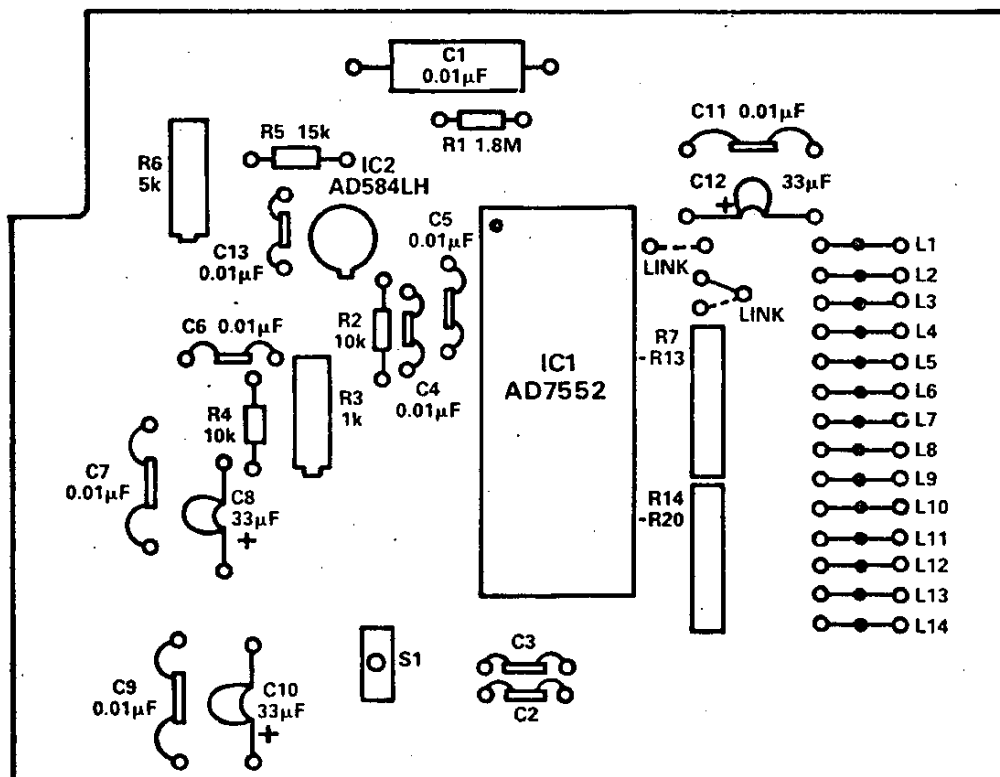
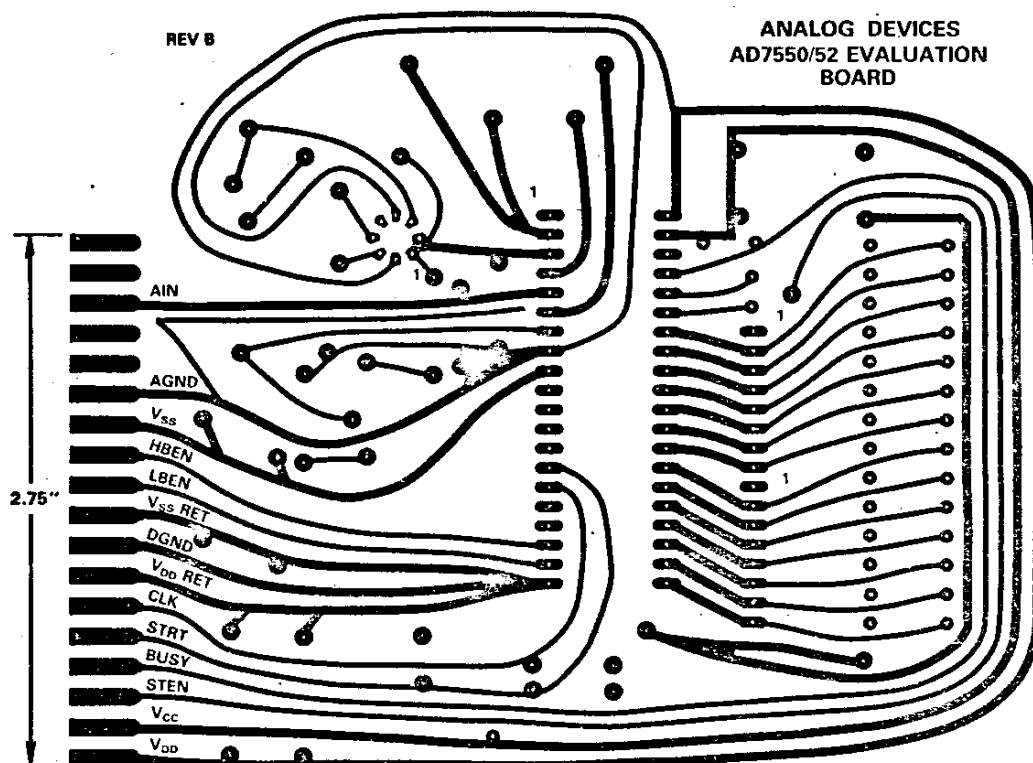

Figure 7. Component Overlay for Figure 8a
Figure 8a. Component Side
9. A printed circuit layout for an evaluation board is shown in Figure 8a and 8b. Figure 6 shows the circuit diagram for this evaluation board with component values for  $f_{CLK} = 250kHz$ ,  $V_{REF1} = +4.25V$  operation. Figure 7 shows the component overlay for Figure 8a. Note that either  $\overline{BUSY}$  (pin 35) or  $\overline{BUSY}$  (pin 36) is available at the edge connector via a wire link. Note also that STEN (pin 37) may be tied high via a wire link.